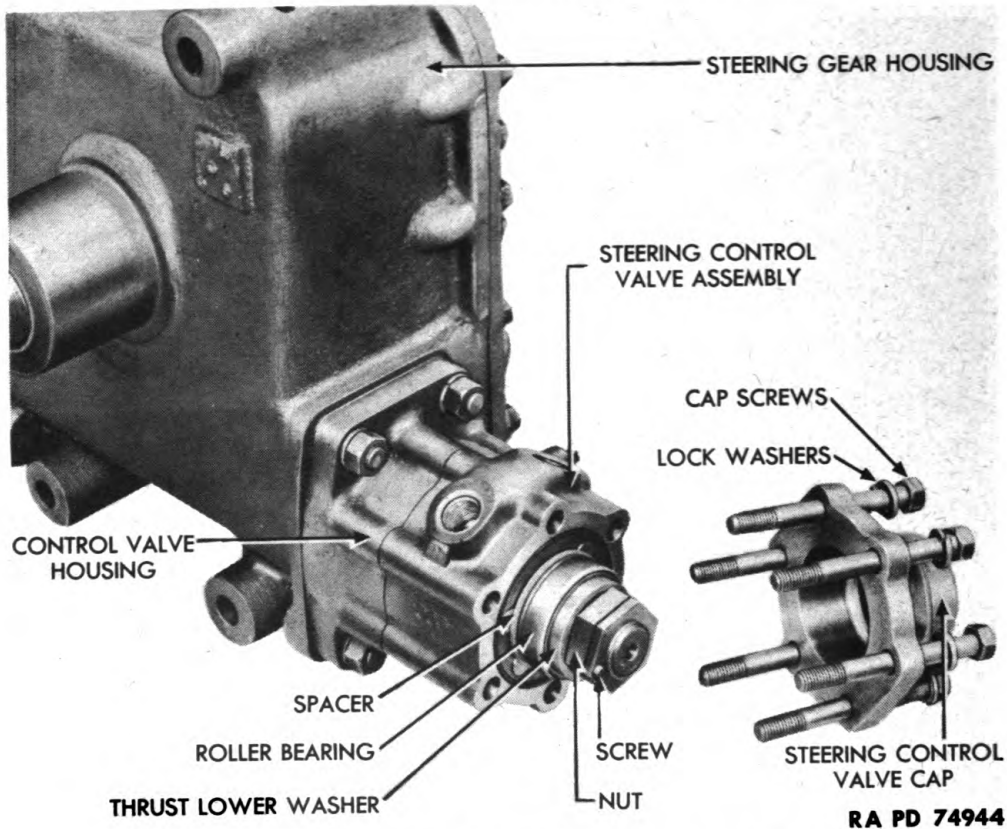

Figure 6 — Steering Control Valve — Installed
10. DESCRIPTION AND DATA (figs. 6 and 7).
a. **Remove Steering Control Valve (figs. 6 and 7).** Remove cap screws and lock washers that hold steering control valve cap on steering valve housing and remove cap. Remove screw from steering control valve cap nut. Then remove nut, camshaft valve lower thrust washers, control valve roller bearing, and spacer from worm shaft. Pull steering control valve assembly off steering gear, and remove remaining roller bearing and camshaft valve upper washer.
b. **Install Steering Control Valve** (figs. 6 and 7). Install steering control valve assembly on steering gear, then install spacer, control valve thrust roller bearing, camshaft valve thrust lower washer, and nut on worm shaft. Install steering control valve cap nut on worm shaft, and install valve fillister head screw. Install steering control valve cap on steering control valve housing, and fasten with cap screws and lock washers.